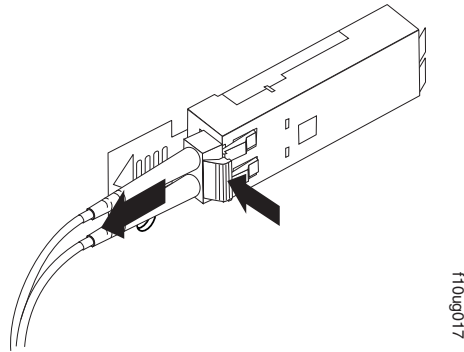

Figure 30. Removing the LC-LC fibre-channel cable
2. Carefully pull on the connector to remove the cable from the SFP or SFP+ module, as shown in Figure 30.